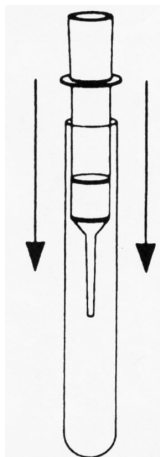

Fig. 1: Mounting the sealing ring to the column.
- Mount the sealing ring to the column (Fig. 1) to fix the column in the collection tube.